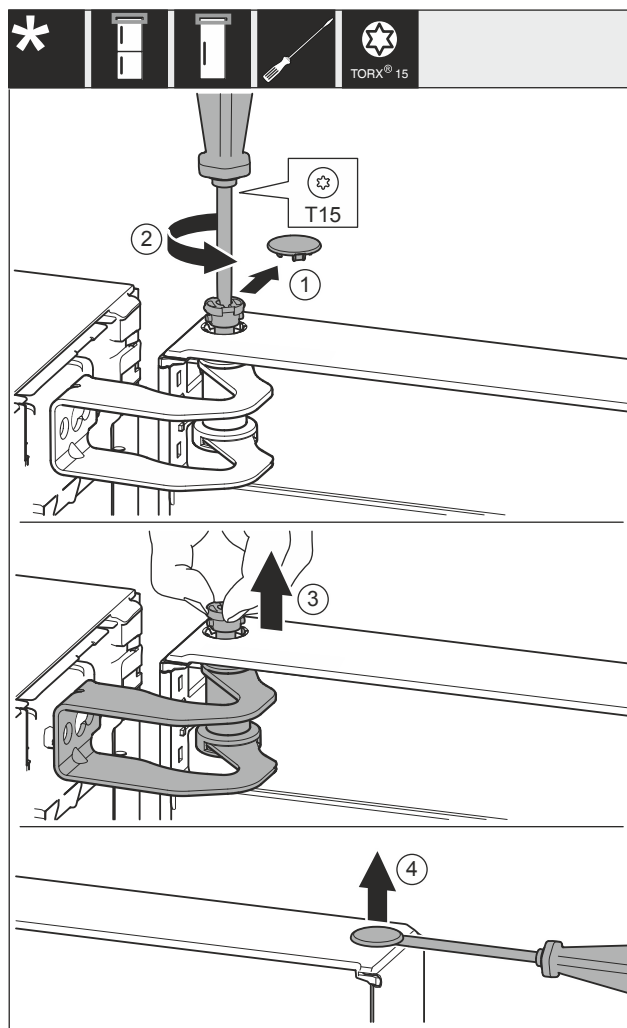

Fig. 10
- ▶ Carefully remove the cover Fig. 10 (1).
- ▶ Slightly pull out the pin Fig. 10 (2) with the screwdriver.
- ▶ Pull out the pin Fig. 10 (3) with your fingers.
- ▶ Carefully lift the cover Fig. 10 (4) with a screwdriver and remove it.